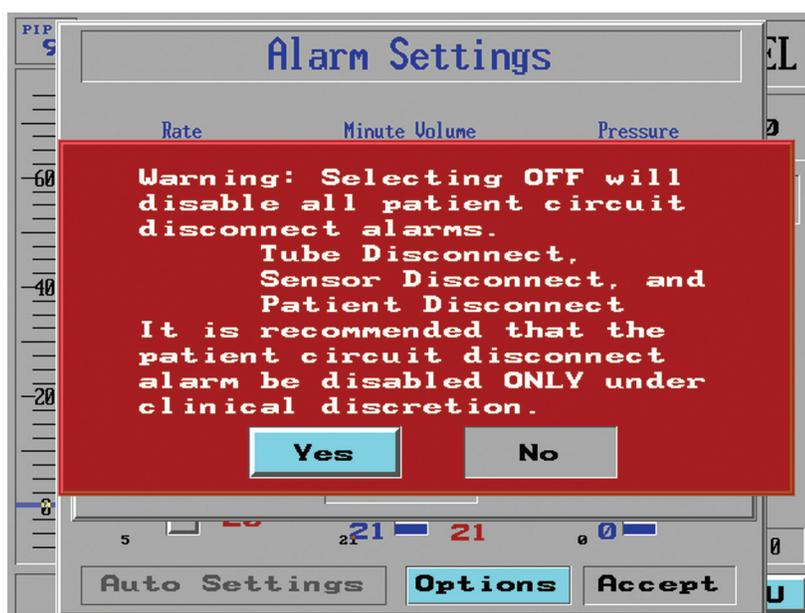

Figure 5.7 Patient circuit disconnect off warning
2. Turn the control knob to select **On** and **Off**, press the control knob to confirm the setting. If you select **Off**, a warning will appear as shown in figure 5.7.